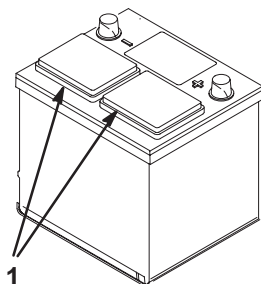

Figure 2
2. Clean the top of the battery and remove the vent caps (Fig. 2).